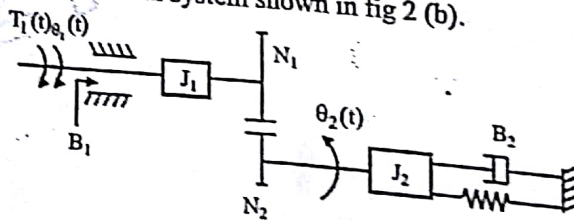

Fig 2 (b)
- b) Find T.F. of rotational mechanical system shown in fig 2 (b). 8